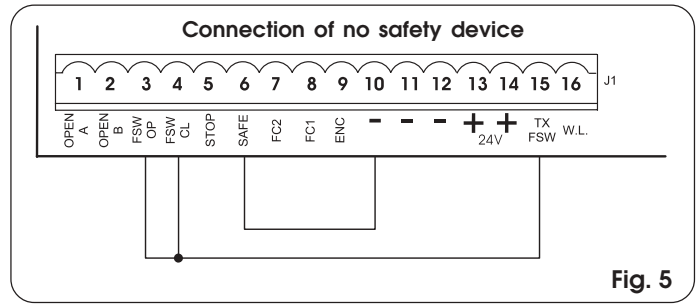

Fig. 5
N.B: If safety devices are not used, jumper connect the terminals as shown in fig. 5.
NB.: If no opening safety devices are connected, jumper connect inputs **FSW OP** and **-TX FSW** (fig. 5).
NB.: If no closing safety devices are connected, jumper connect terminals **FSW CL** and **-TX FSW** (fig. 5).
NB.: If edge safety devices are not connected, jumper connect the **SAFE** and - inputs (fig. 5).